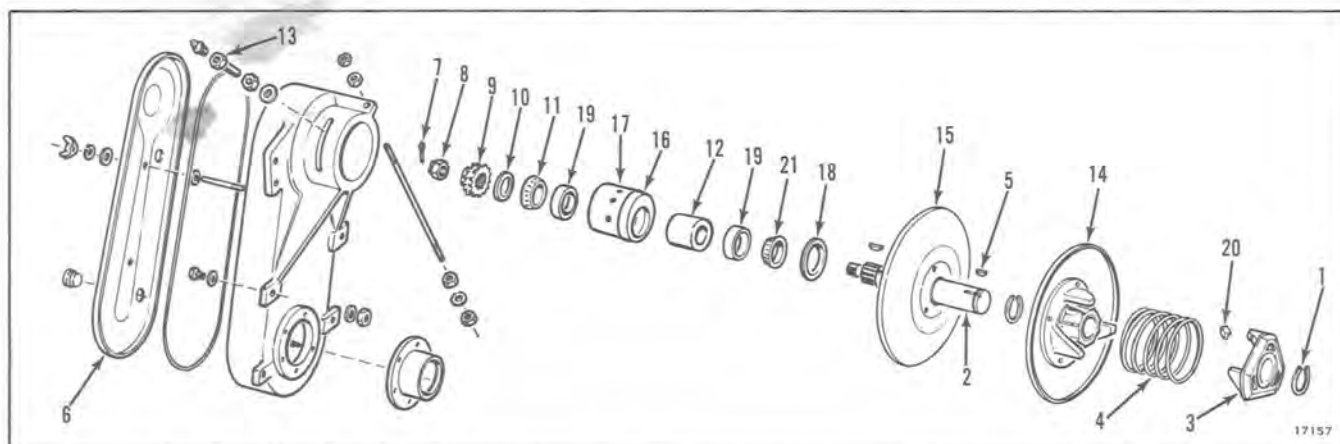

Figure 10-13
8. Remove outer bearing cone washer (10), outer bearing cone (11) (and bearing spacer (12) HP ONLY).
9. Remove eccentric adjusting screw (13).
10. Pull the movable half of sheave (14) off shaft. Figure 10-13.
1. Press bearing cups into eccentric. See Figure 10-13.